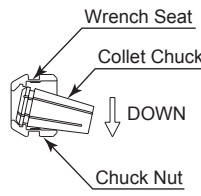
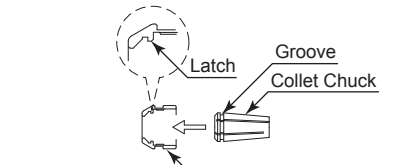
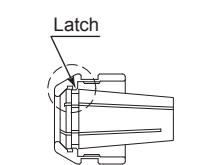

Fig. 10
Fig. 11
Fig. 12
- ② The collet chuck and chuck nut are secured by a groove in the collet chuck and a flange in the chuck nut. To remove the collet chuck hold the chuck nut in one hand and push diagonally down on the collet chuck. The collet chuck should be released.(Fig. 10).
- ③ To install the collet chuck, hold the collet chuck at a slight angle, and insert it into the chuck nut (Fig. 11). Press the collet chuck in the chuck nut by positioning the collet chuck in the chuck nut and pressing down on flat surface (Fig. 10). Be sure to fully engage the latch inside the chuck nut into the groove on the collet chucks outer circumference area (Fig. 12).